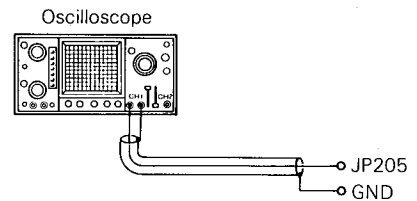

Fig. 13
- (1) Connect oscilloscope to JP205 and GND. (Fig. 13)
- (2) Insert the disc and place the unit in the Test Mode 3.
- (3) Adjust diffraction grating screw so that the waveform becomes maximum.